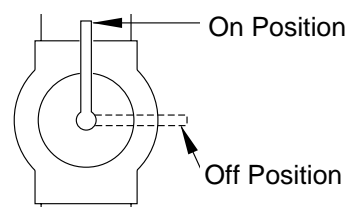
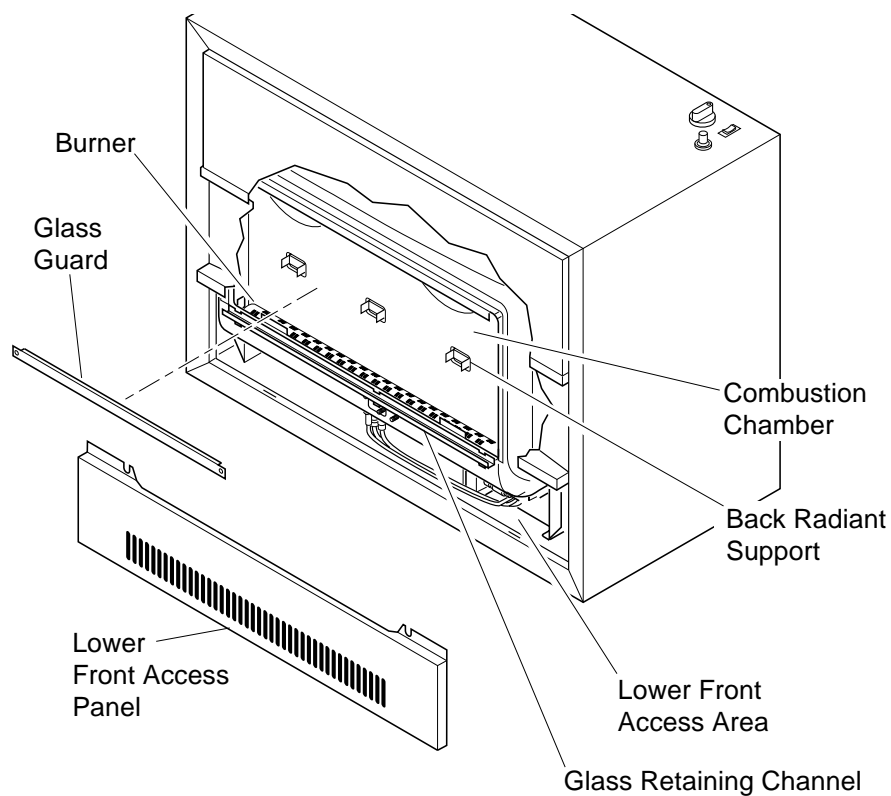

Figure 8 - Manual Shutoff Valve
Figure 9 - Location of Radiants
1. Close manual shutoff valve (see Figure 8).
1. Open manual shutoff valve (see Figure 8).
1. Remove glass guard from across opening at front of heater (see Figure 8).
2. Place radiants into combustion chamber through opening at front of heater. Front of radiant sits on front radiant support (see Figure 9, page 14). Back of radiant rests on back radiant support (see Figures 8 and 9).
2. Remove lower front access panel of heater by removing two screws at upper corners of panel. The lower front access panel covers the lower front access area (see Figure 9, page 14).